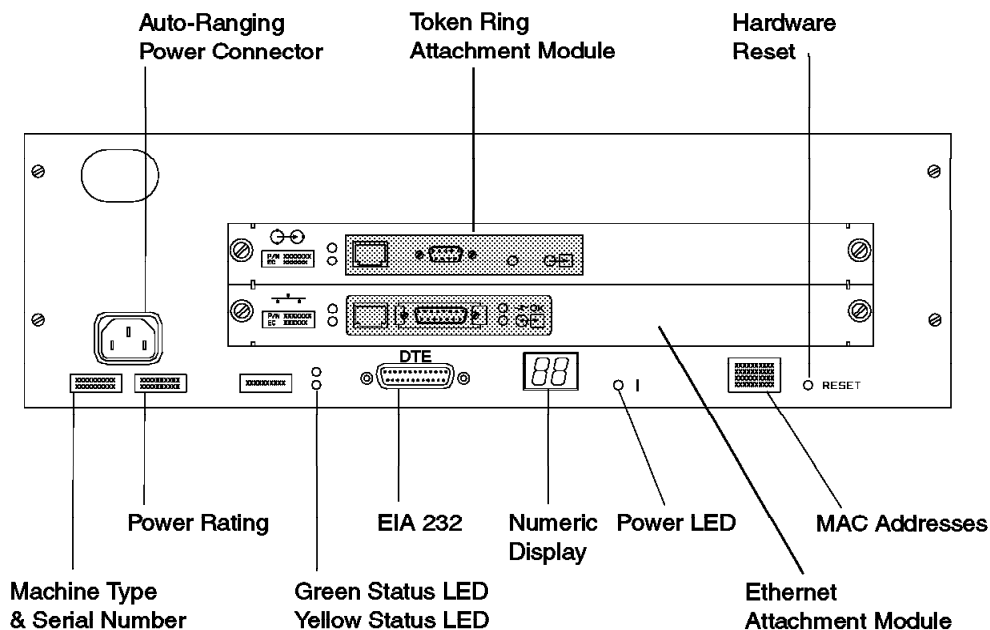

Figure 6. The Ethernet Bridge Front Panel
- 4. Verify that the **token-ring module** is installed in the **upper slot** and the **Ethernet** in the **lower slot** of the ethernet bridge, refer to Figure 6 on page 10.
6. Connect power cord **B** (PN 58G5783) first to the ac outlet distribution box and then to the Ethernet Bridge(refer to Figure 6 on page 10).
11. Locate the MAC address label on the front of the ethernet bridge (to the left of the reset button). See Figure 6 on page 10.
- Locate the MAC address label on the front of the ethernet bridge (to the left of the reset button). See Figure 6 on page 10.